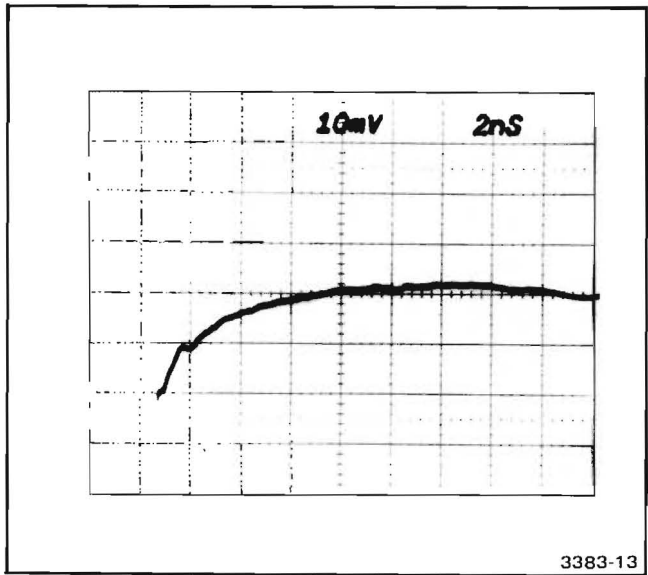

Fig. 4-3. Typical sampling oscilloscope response display.
- g. CHECK—that the aberrations are within 2% (1 div). Refer to Fig. 4-3.